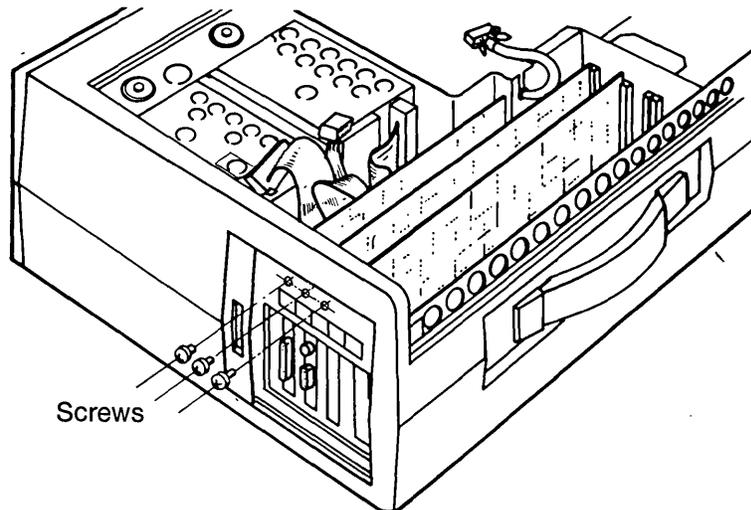

Figure 11-28. Inserting the Screws Which Hold the Adapter Boards.
13. Insert the retaining screw that secures the fixed disk adapter board assembly to the system chassis, along with the screws to the other adapter boards (see Figure 11-28).